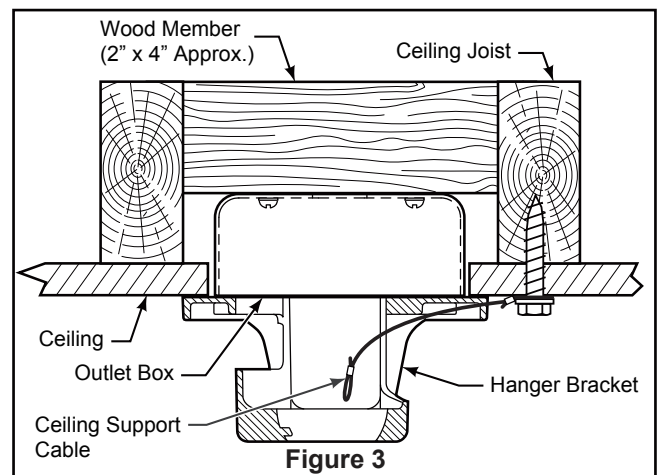

Figure 3
Your new ceiling fan will require a grounded electrical supply line of 120 volts AC, 60 HZ, 15 Amp Circuit. Electrical code requires use of a fan-rated outlet box to support the extra weight and motion associated with a ceiling fan. A fan-rated box will be labeled as such and typically supports up to a 70lb ceiling fan. Fan-Rated Outlet Boxes vary in ratings and design. Ensure the ratings of your ceiling fan outlet box meet the requirements for the ceiling fan being installed. Figure 1, Figure 2 and Figure 3 depicts different structural configurations that may be used for mounting the outlet box.
### Deep box with brace (Figure 3)
3. Remove the hairpin clip and clevis pin from the bottom of the downrod. Retain the pin and clip for reinstallation in Step 5. (Figure 3)
1. Securely attach the hanger bracket to the outlet box using the outlet box screws and washers supplied with the fan. (Figure 3)
2. Drill a 1/4" pilot hole into the building structure to prevent splitting or cracking with installation of the lag bolt. Using the 3/8" x 2" lag bolt and flat washer, attach safety cable to ceiling joist or wood structural member. The lag bolt will pass through the flat washer, safety cable loop, and into the building structure. (Figure 3) **NOTE:** Ceiling support cable cannot be secured to outlet box only, it must be directly secured to ceiling joist or structural member using the 3/8" x 2" lag bolt and flat washer. (Figure 3)
2. Slide the receiver into the hanger bracket before wiring as shown in figure 3.
3. Remove the battery cover from remote control by screwdriver and retain the screw for later. (Figure 3)